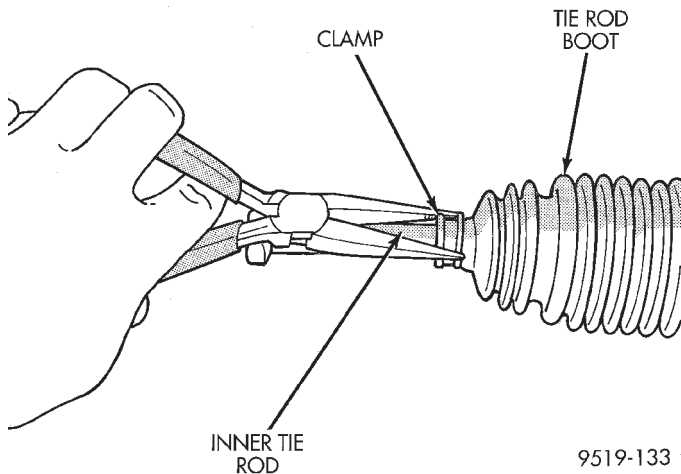

Fig. 28 Tie Rod Boot Clamp Removal
- (7) Using pliers expand tie rod boot clamp, (Fig. 28) and remove from tie rod boot.
(3) Lubricate inner tie rod boot groove with silicone type lubricant, then install tie rod boot to inner tie rod clamp (Fig. 28). (Clamp will have to be loosened for toe adjustment.)